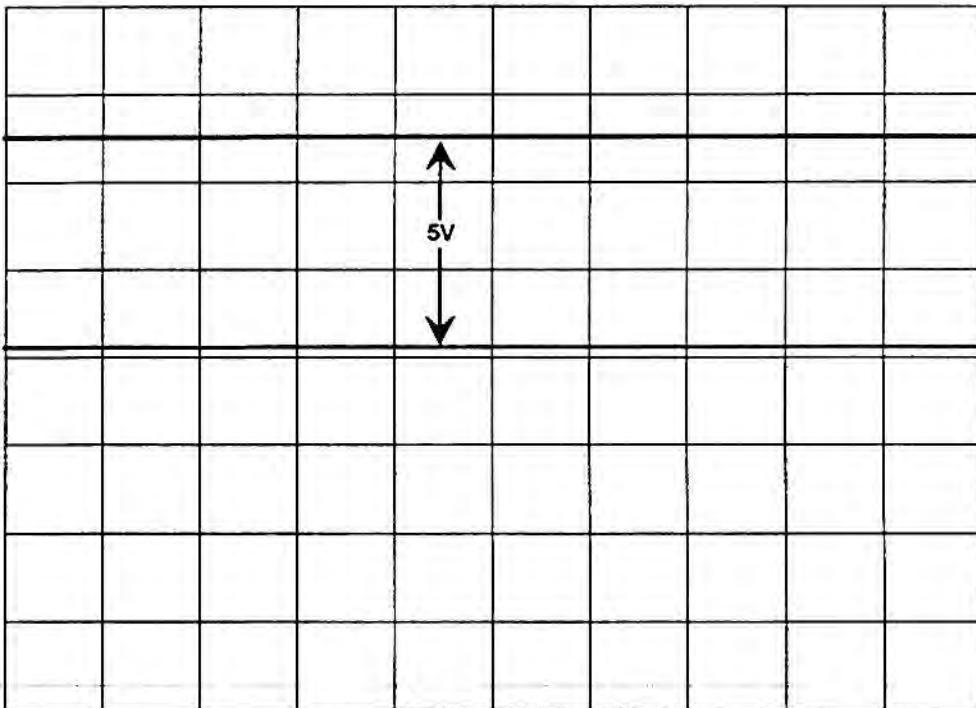

FIGURE 4-10. Typical Signal Trace at U17-8
- (a) Using an oscilloscope, check signal at U17-8 as tuning wheel is turned. Signal should fluctuate between +5 and 0 Vdc as shown in Figure 4-10. If signal is correct, replace U11.